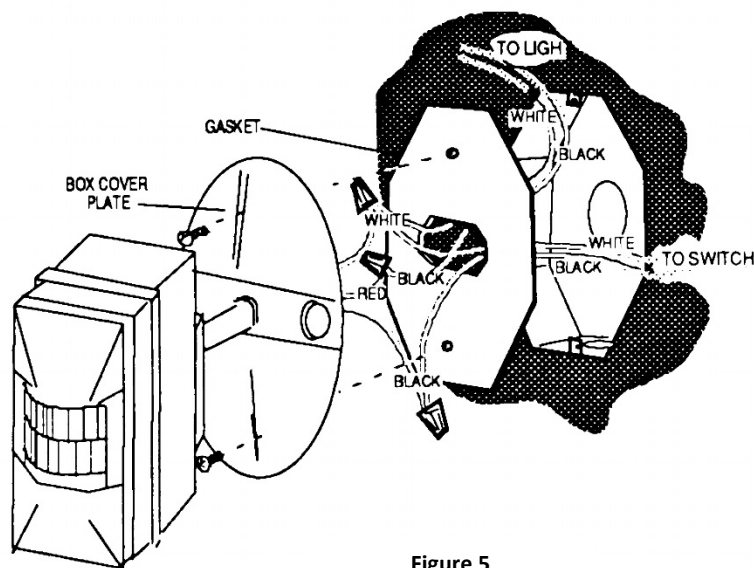

Figure 5
6. Run the power wires through the gasket hole as show in **Figure 5**.